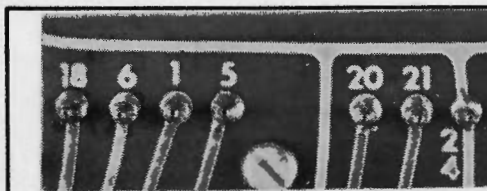

FIGURE 1
1. Keyboard 1016 - 4904, basic keyboard, see Figure 1.